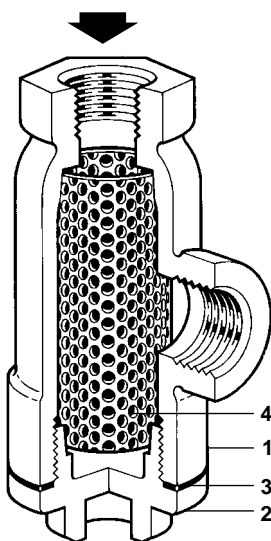
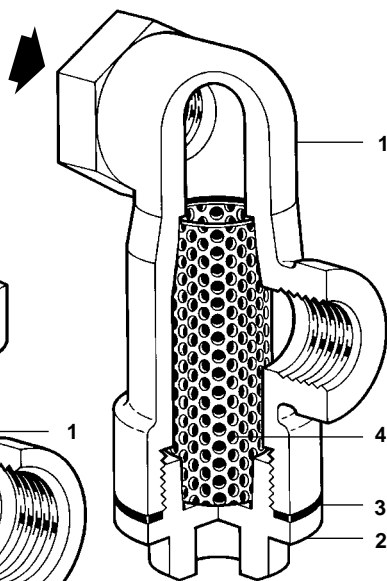

Fig 4
Fig 5
- 3.4** The strainer should be installed with the strainer cap at the bottom with the inlet at the top on Figs 4 and 6, and at the side on Fig 5.